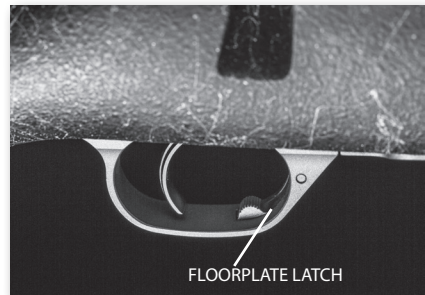

Fig. 4
4. To unload the magazine, open the floor plate by depressing the floor plate latch (*refer to Fig. 4*). The floor plate will swing out, allowing the cartridges to drop free. Do not allow the cartridges to fall to the ground as they may be damaged or become dirty making loading and chambering more difficult. Subsequent loading of a damaged or dirty cartridge may cause a live round to become jammed in the chamber of the firearm resulting in an unsafe condition.
- a. Press the floorplate latch (refer to Fig. 4) to open the floorplate.